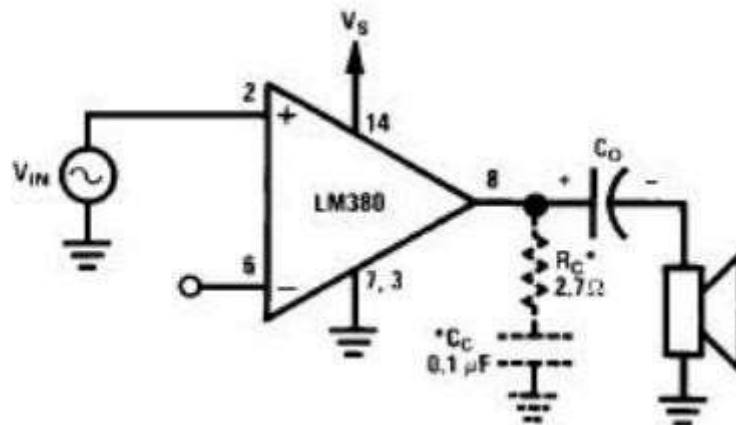

Figure 5.11.4. Connections of Audio power amplifier
- Figure 5.11.4 shown above is the connection of Audio power Amplifier. Amplifier requires very few external components because of the internal biasing, compensation & fixed gain.